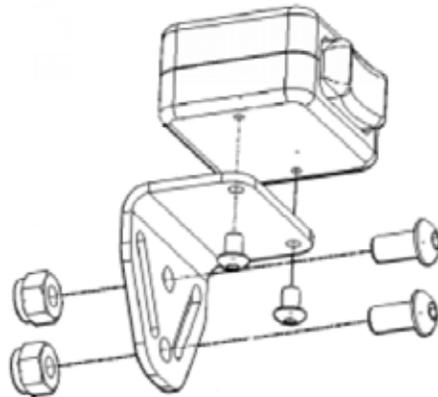

Fig. 4
1. The switch is usually installed on the left handlebar on ATV's. If you are installing on a UTV or SxS, you can use the supplied bracket and hardware as the Fig. 4. This bracket can be placed in any location that is convenient for you.